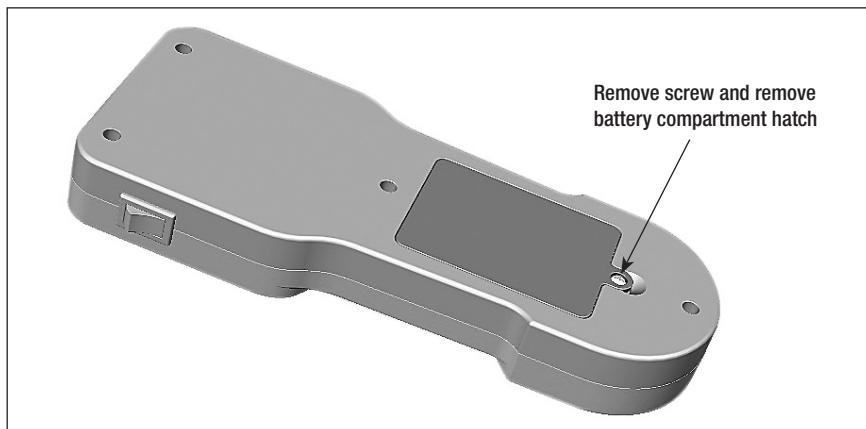

Figure 1. Opening and closing the battery compartment
**F**or safety purposes, you must use a Phillips screwdriver to access the battery compartment. Use a Phillips screwdriver to remove the screw that secures the battery compartment hatch and lift the hatch to access battery compartment (as shown in Figure 1). Insert three AAA batteries orientating the +/- as shown in the bottom of the battery compartment. Replace the battery door and replace the screw.